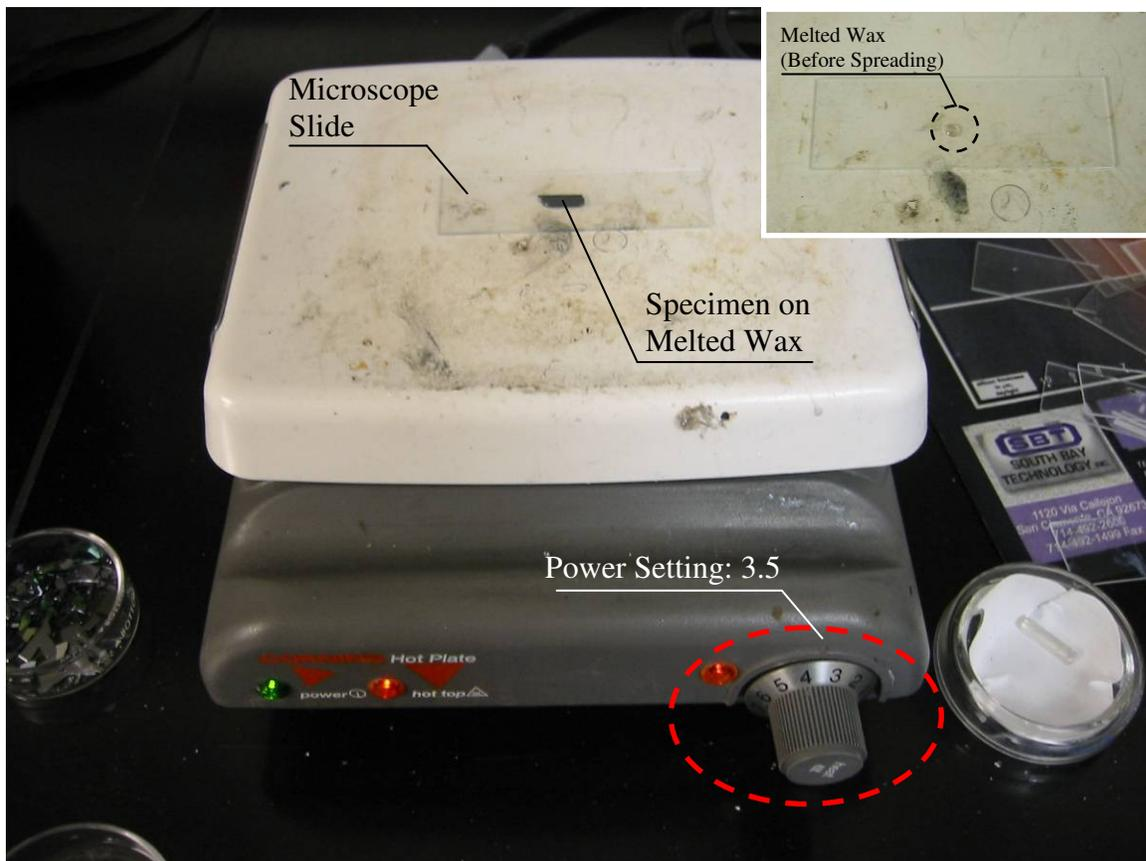

Figure 1 Bonding specimen on microscope slide for cutting. (Inset shows melted wax on heated slide prior to bonding specimen.)
- (1) Place a cleaned microscope slide onto the hot-plate at a power setting of '3.5' (see Figure 1);
- (2) Place an appropriate (enough to wet the specimen area) amount of wax onto the heated slide. Spread the wax with a toothpick;
- (3) Place specimen onto the melted wax. Make sure the melted wax wets the specimen completely before removing the slide for cooling (see Figure 1).